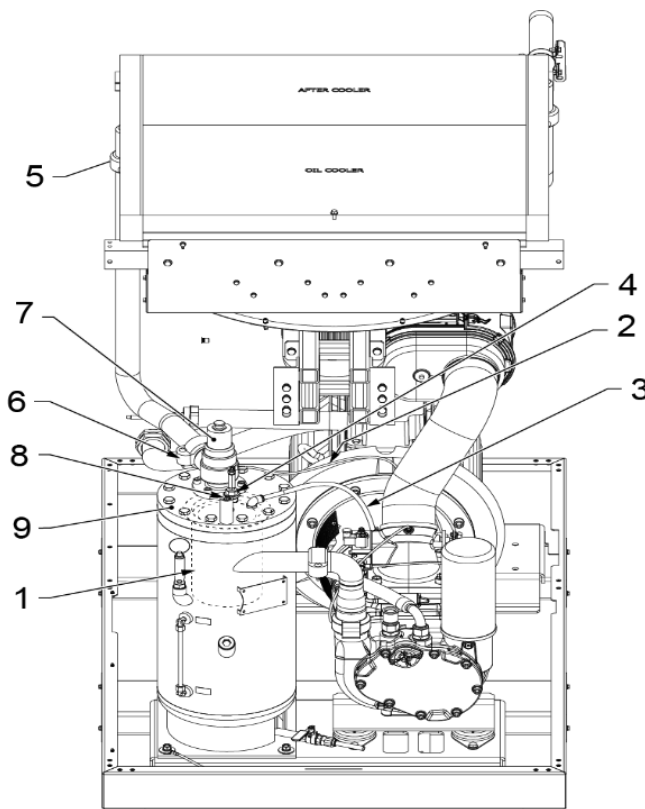

Figure 2-6 Fine Oil Separator
2. Detach the plastic oil scavenge line (-2- Fig. 2-6).
3. Detach the plastic control air line (-3- Fig. 2-6).
4. Fully remove oil extraction assembly with pressed in extraction tube (-4- Fig. 2-6).
8. The set screw (-8- Fig. 2-6) for lifting the reservoir cover must be screwed in clockwise until the cover (-9- Fig. 2-6) starts to separate from the reservoir.
10. Remove the used fine oil separator (-1- Fig. 2-6).